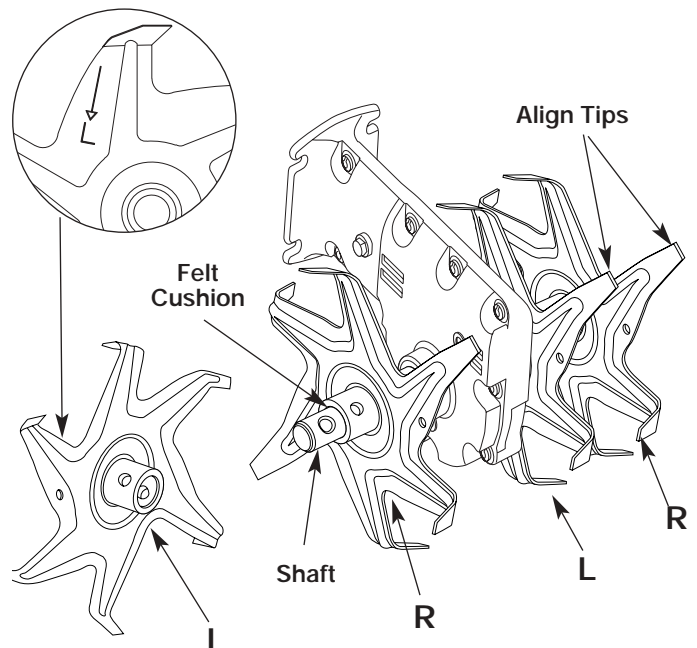

Fig. 16
- Ensure the tips on tines are aligned in the same direction with each other before reinstalling the clevis pins and pin clips (Fig. 16).